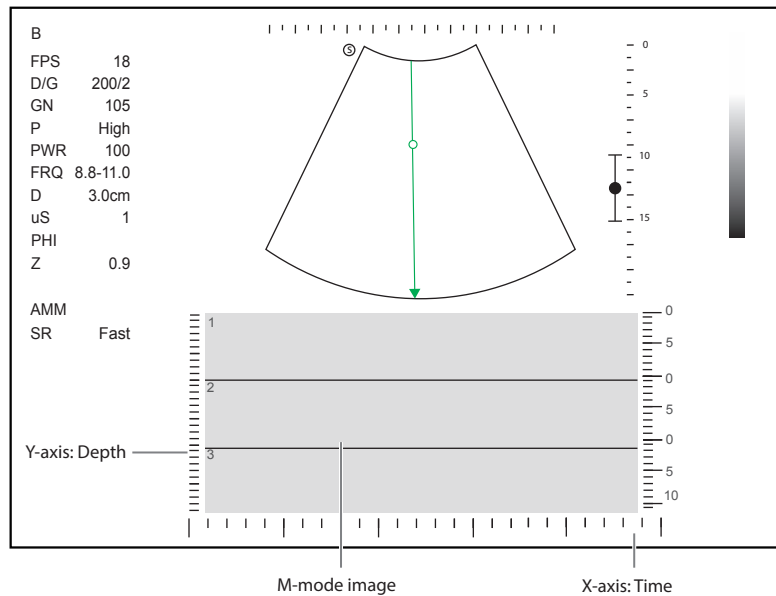

Figure 6-13 Linear Anatomical M-Mode Imaging Screen
- After settings, multiple M-lines are displayed on the B-mode image as shown in Figure 6-13.